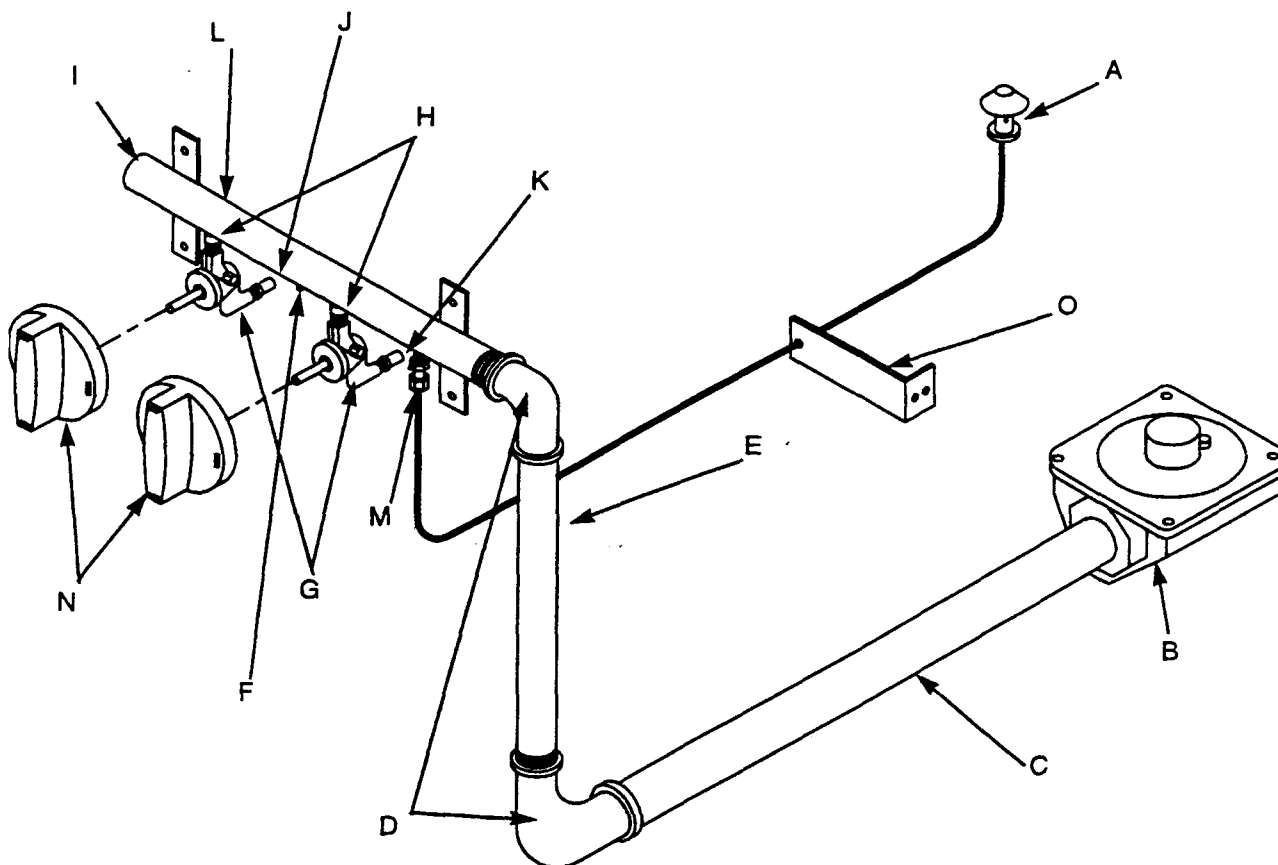

FIGURE 4 GAS LINE
* Includes all items in figure 4, except items A, B, N, O